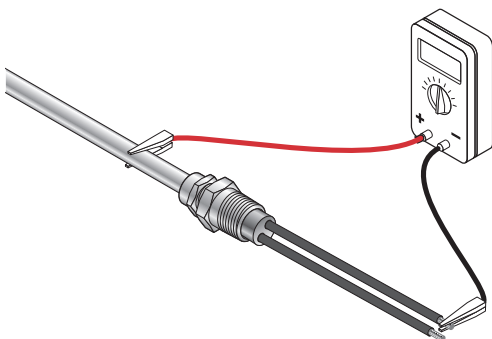

Figure 71: Recheck insulation resistance
Check the insulation resistance (IR) again (Figure 71). A value greater than 20 MΩ should be attained. If the IR is lower, remove the moisture from the cable by following the drying out procedure in Appendix D. Repeat IR test.